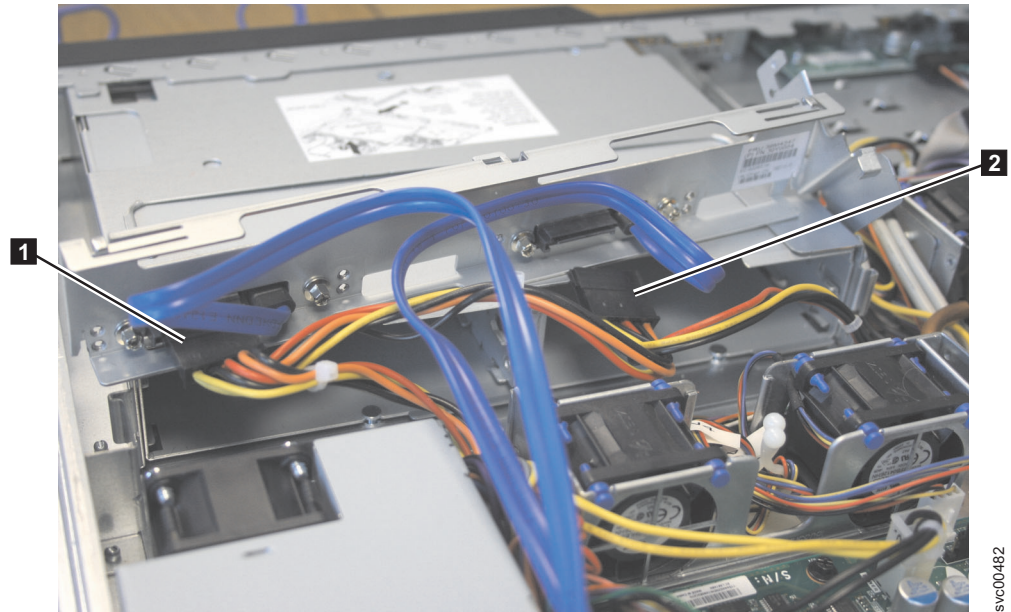

Figure 121. SAN Volume Controller 2145-8A4 power supply connectors
10. Slightly lift the back plate out of the node. Disconnect power cable connectors P2 **1** and P3 **2**, shown in Figure 121, and remove the back plate.